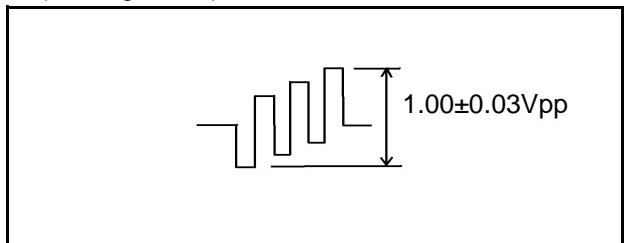

Figure 53. YC YUV color Output Adjustment
7. Adjust B1a(YUV color) DAC data is $1.00\pm0.03vpp$ (see Figure 53).